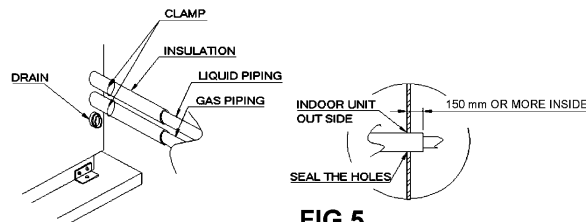

FIG 5
- After brazing the pipes use the insulation to secure the pipe inside of the unit (FIG.5).